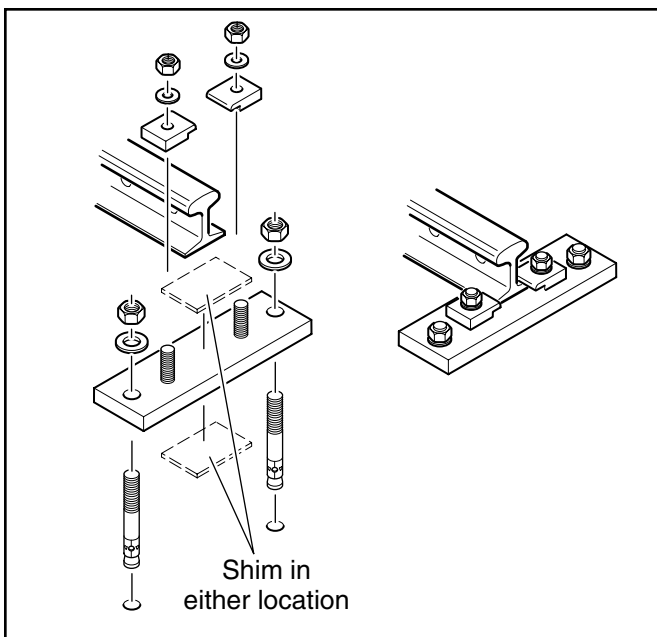
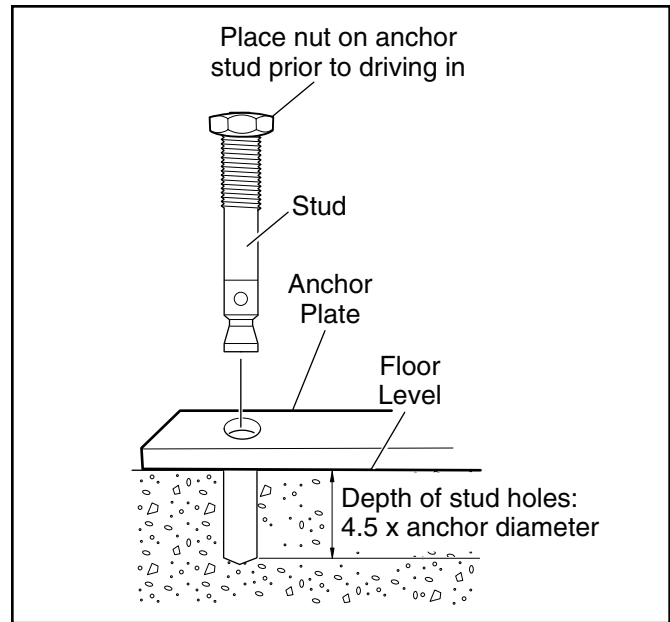

Figure 2.2 Rail Anchor
Figure 2.3 Anchor Stud
Figure 2.2 shows the rail anchor assembly that is installed at four foot [1219 mm] intervals along all rail paths. Figure 2.3 shows the depth and placement using the anchor plate as a template for drilling anchor stud holes. Mark and drill anchor stud holes with care and precision. In order for rail gauge to be accurate, the holes for rail anchors must be within a tolerance of $\pm 1/16$ inch [2 mm].
2. Install rail anchor clips, lock washers, and nuts. Shims may be used to obtain the correct elevation of the rails. See Figure 2.2.